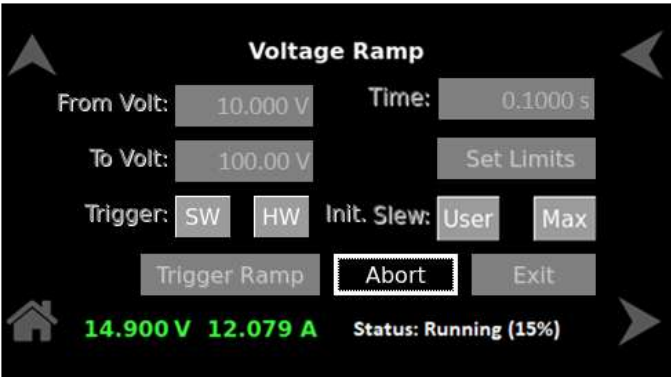

Figure 10-70. Status – Running
**d) Running:** When the system is executing the trigger ramp process, refer to Figure 10-70.